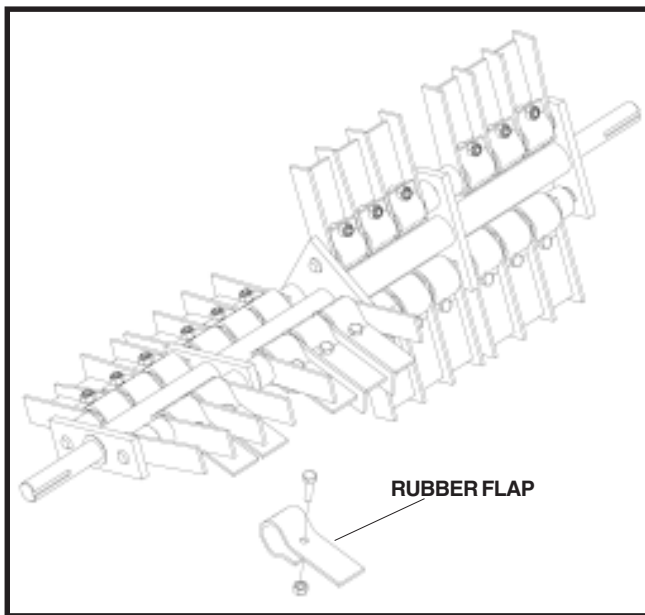

FIGURE 3
- Install rubber flaps between flail blades on the rake shaft. See Figure 3. If this shaft is installed, you **DO NOT** have to remove the shaft from the unit to install the the rubber flaps.